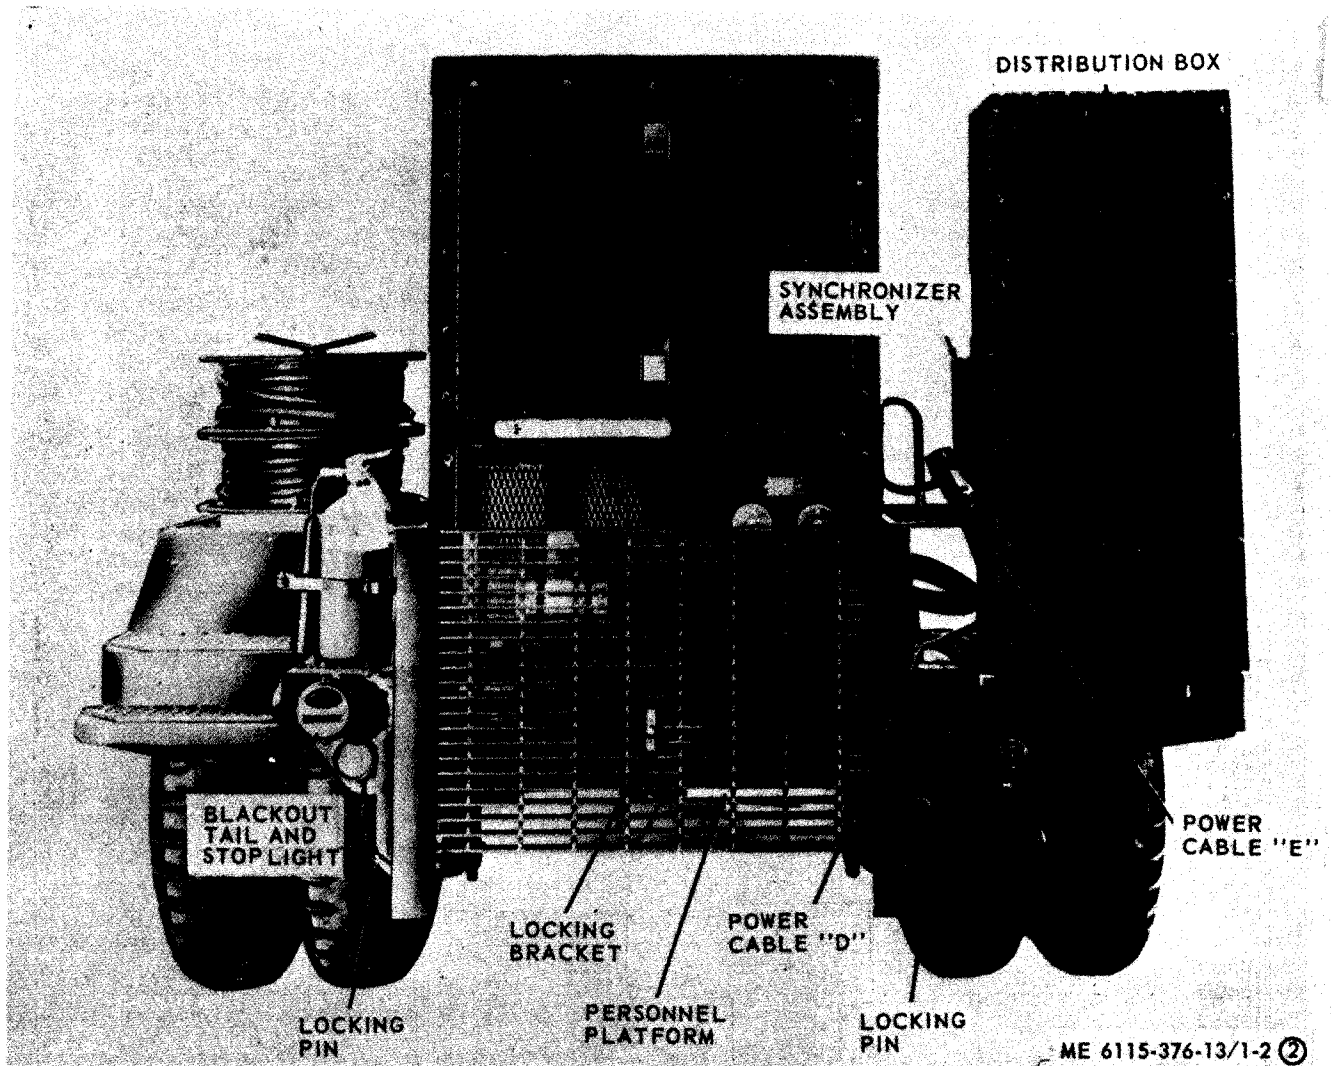

Figure 1-2. PU-407/M trailer with consolidated DE Model 4070 (sheet 2 of 2).
(1) Control panel: (fig. 1-2(2)).
- Meters (3) ----- 0-200 amp scale (one per phase)
- Lamps (9) ----- 120 VAC, near (one per circuit breaker).
(2) Distribution panel
- Output connectors (9)